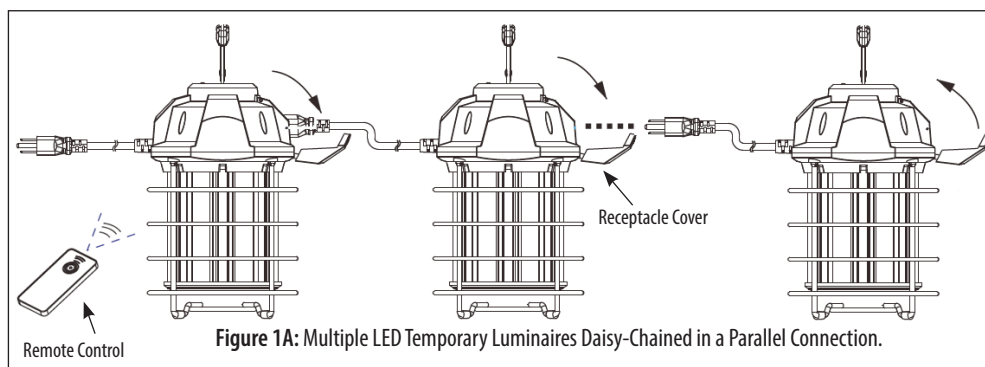

Figure 1A: Multiple LED Temporary Luminaires Daisy-Chained in a Parallel Connection.
1. This luminaire features a Grounded Plug and a 5-15 NEMA Receptacle (5 Amps @ 120 Volts only). The receptacle enables two (2) or more luminaires to be "daisy chained" together. See Figure 1A.
5. Turn on the power and test the luminaire(s) by using the Remote Control. See Figure 1A.